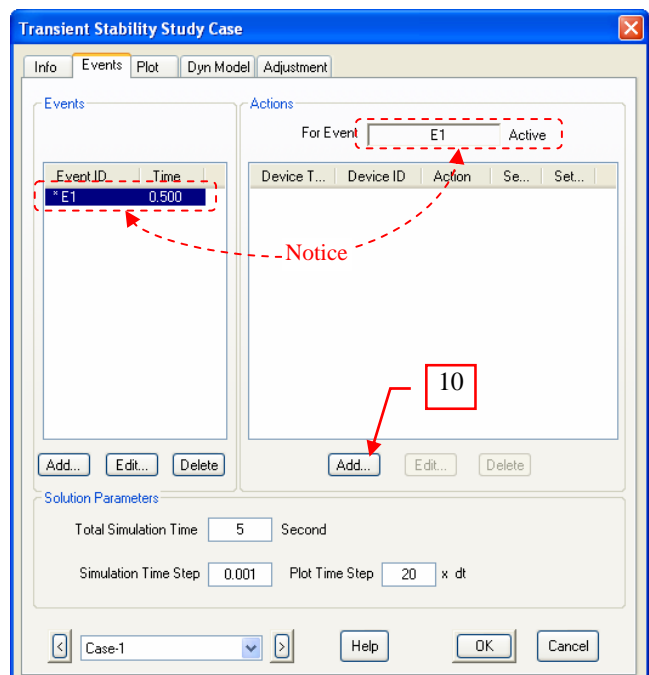

Fig. 6
10. With the Event ID “E1” active (selected) on the “Events” Frame of the “Events” dialog box, click the “Add” button at the “Actions” frame (See Fig. 6). The “Action Editor” dialog box will be displayed.